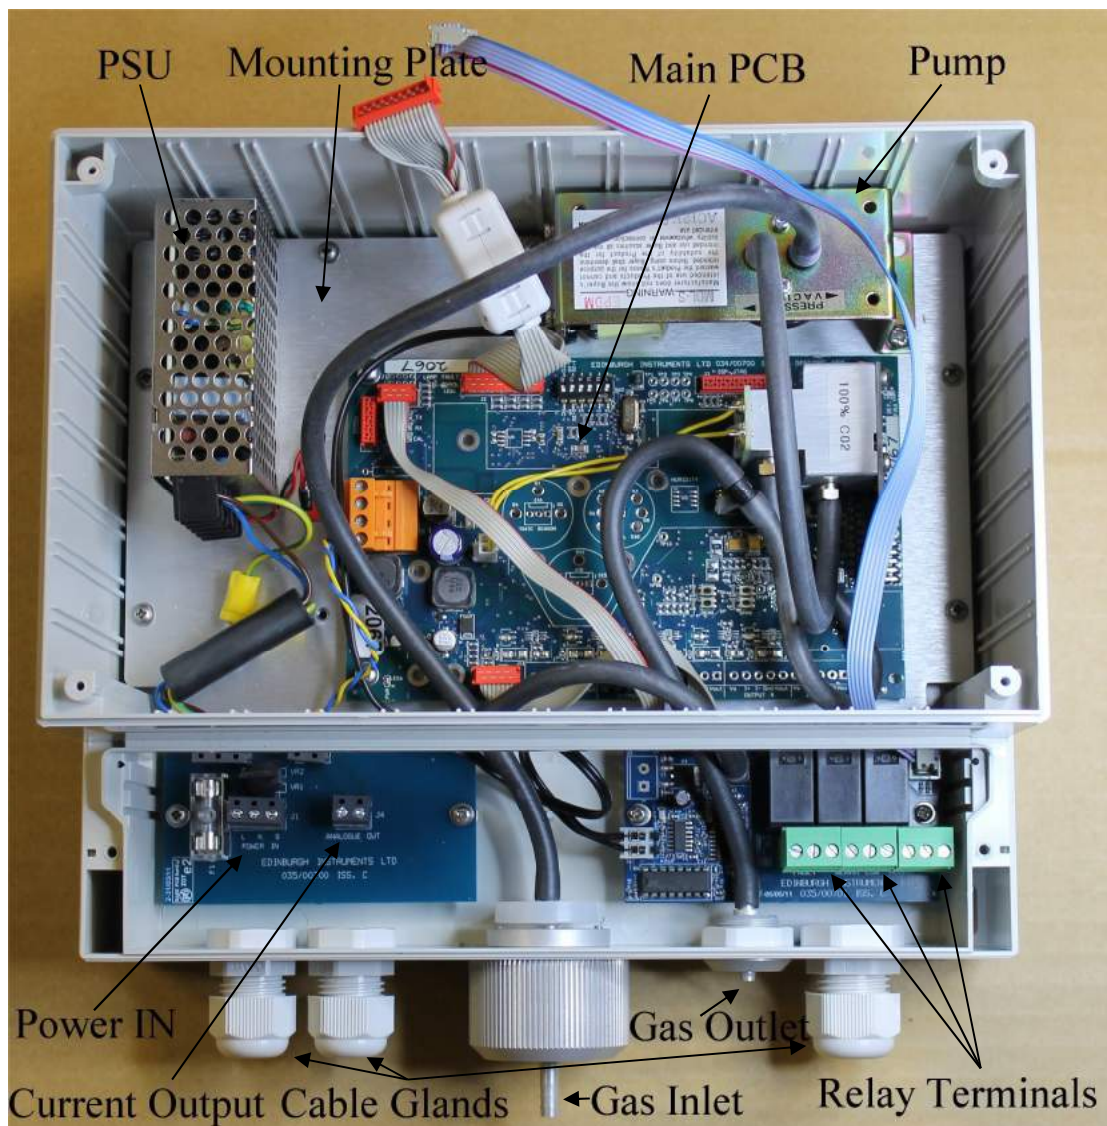

Figure 19: Guardian NG Internal View
- 9 i) Unscrew the knurled gas inlet/filter housing (Shown in Figure 19) to access to the particle filter capsule
Removal of the front panel allows access to the other PCB's sufficient to perform most service operations (primary fuse replacement, pump replacement, secondary filter replacement). For more major repairs, it may be necessary to remove the main mounting plate (see Figure 19).
There are two fuses in the Guardian NG; one is located on the main PCB (see Figure 19) and one on the Power supply PCB. When replacing the mains fuse, use only 20 mm, anti-surge fuses (indicated by the character T before or after the fuse rating). Other faster fuses may blow during switch-on. Fuse details
| F1 | Power Terminal Board (see Figure 19) | 200 mA T |
The pump is located on the Mounting Plate (Figure 19) and may be replaced as follows: